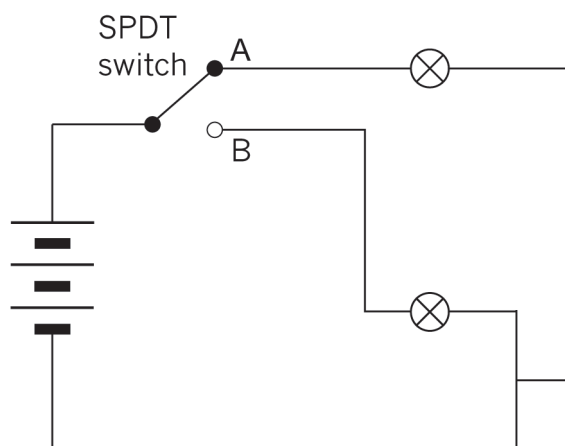

Figure 6: A circuit with a battery, two lamps and an SPDT switch controlling two outputs
3. Look at Figure 6 again. An SPDT switch controls two possible outputs. They cannot both be ON, nor can they both be OFF. Is this an example of OR logic or AND logic? Explain your answer.